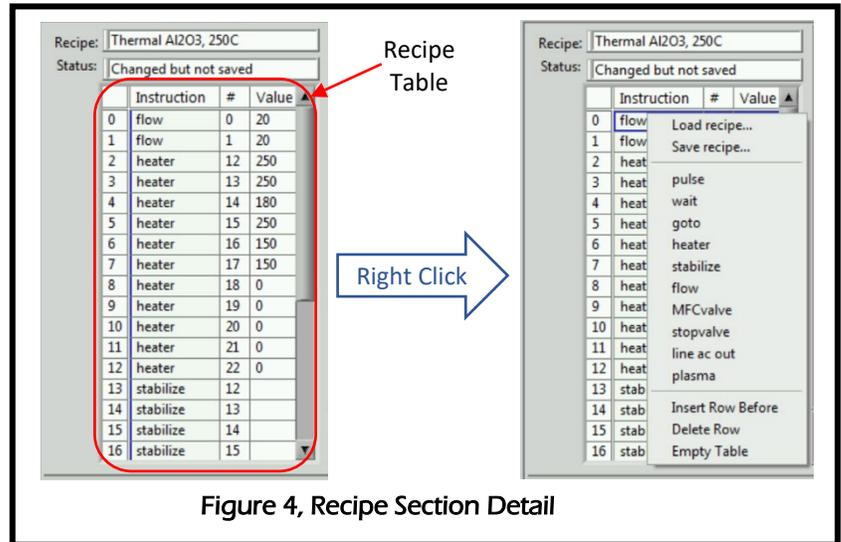

Figure 4, Recipe Section Detail
- 7.4.1 Right click in the recipe steps table. (See **Figure 4, Recipe Section Detail.**)
8.9.1 Right click in the recipe steps table. (See **Figure 4, Recipe Section Detail**.)